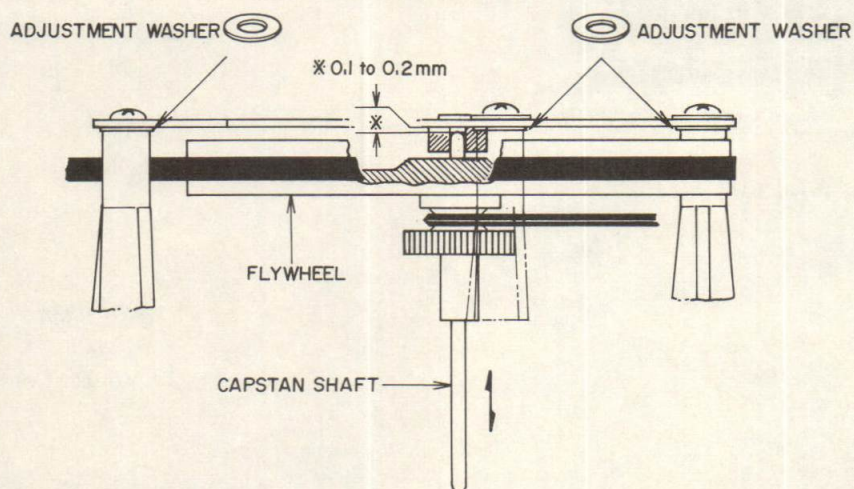

Fig. 9
2. FLYWHEEL LOOSE PLAY ADJUSTMENT (Refer to Fig. 9)